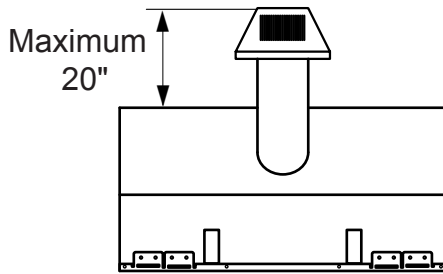

Figure 11 - Rear Vent Application, Maximum Horizontal Distance
- The maximum horizontal distance between the rear of the appliance and the outside of termination is 20" (508 m). See Figure 11.
1. Locate and cut the vent opening in the wall. For combustible walls first frame in opening. See Figure 11.
3. Attach vent pipe assembly to the fireplace. Set fireplace in front of its permanent location to insure minimum clearances. Mark the wall for a 9" H x 9" W (229mm x 229mm) rectangle hole (for noncombustible material such as masonry block or concrete, a 7½" [190mm] diameter hole is acceptable). See Figure 11. The center of the hole should line up with the center line of the horizontal rigid vent pipe end. Be sure to allow for minimum rise.